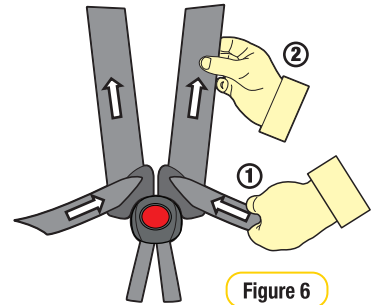

Figure 6
Step 5: Remove all of the slack for the harness lap straps by pulling shoulder straps (refer Figure 6), then pull the harness adjustment strap to adjust harness to a comfortable but firm fit (refer Figure 6 & 7).